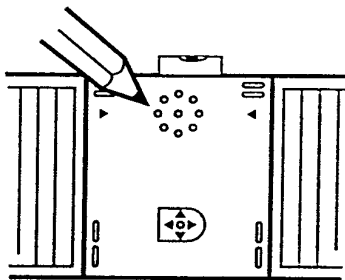

Fig. 20
2. Hold the wall template against the wall at the required boiler location. Ensure that the top of the template is level (Fig. 20).
4. Mark the position of the flue hole centre and the inward pointing corners of the two triangular cut-outs in the template. Mark the position of the four fixing holes. Where possible use the uppermost and lowest fixing hole positions, otherwise space the fixing holes as far apart as possible (Fig. 20).